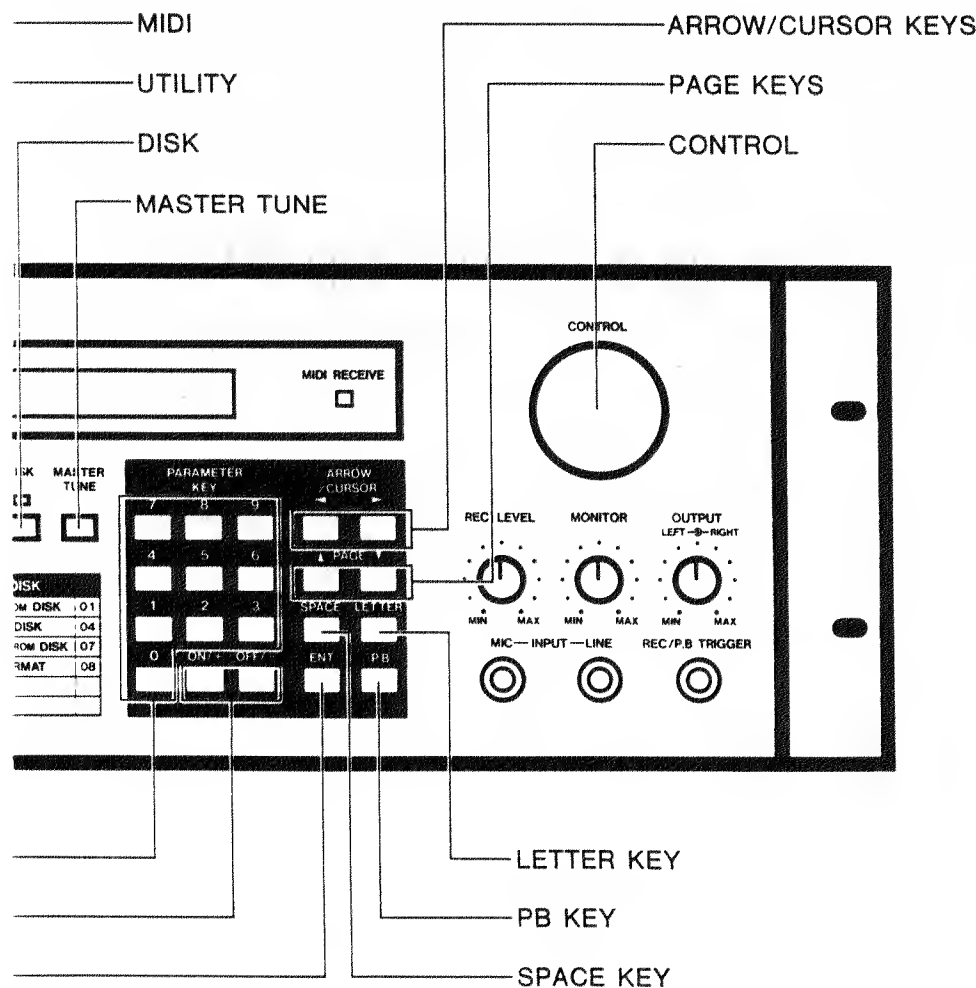

Fig. 2
1. When the arrow point to a parameter that requires a name, press the LETTER button (Fig. 2). The cursor will be replaced by a line under the letter to be entered.
2. Turn the control to choose a letter (A–Z). You may also choose 0–9, space, and #. To quickly choose a space without having to turn the CONTROL, press the SPACE button. To quickly choose a number, press the 0–9 buttons (Fig. 2).